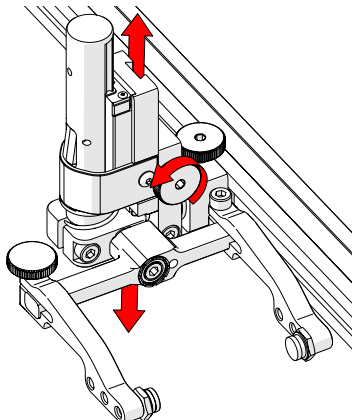

Fig. 101 - Vertical adjustment
2. The vertical adjustment knob allows the vertical probe holder height adjustment (Fig. 101).